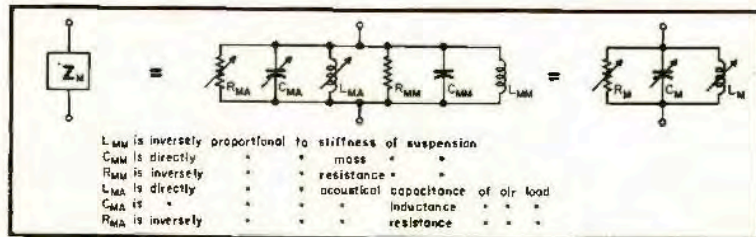

Fig. 2. Equivalent circuit for motional impedance of loudspeaker.
and interrupted wave-trains show that a triode output *without* feedback represents about the point of vanishing return. A lower output impedance than that thus represented is of very little importance in restraining the ringing of a typical diaphragm assembly. Direct-radiator speakers will ring at their resonant frequency even if fed by a generator of zero internal impedance. Just how badly they will ring under that circumstance will depend on the amount of flux in the gap and upon the amount of damping inherent in the diaphragm suspension. The role of mechanical damping, which takes place mostly in the outer roll, is illustrated in Fig. 2. The power that goes into R_{mid} , shown in the middle circuit of that figure, is the power that counts—the power that represents acoustic output. The shunting reactances are necessary evils. Any power lost in
It has to do with variation, with frequency, of the air loading on the speaker cone. In (B) of Fig. 2, the resistance and reactance contributed to the equivalent electrical circuit of the motional impedance by the mass and mounting of the voice-coil and cone have been depicted as fixed. On the other hand, resistance and reactances arising from air
loading have been depicted as variable. In general, the circuit values due to definable mechanical parameters are relatively fixed. Those due to acoustic values may vary with frequency, even the equivalent inductance and capacitance. Over a wide range of frequencies where the speaker (if considered as a perfect piston) gets a big enough "bite" of air, the loading due to air is almost purely resistive and is constant with frequency. For the equivalent circuit within this range C_{m0} and L_{m0} could be left completely out, and R_{m0} could be shown as fixed. However, if the applied frequency is lowered far enough, the "bite" will cease to be big enough at some frequency that depends on the size of the cone and the resistive loading will start to change. Whether it may be said to go "up" or "down" depends upon the acoustical-electrical analogy one uses (e.g. force-current or force-voltage). At any rate, the net effect is that the resistance "seen" by the electric circuit, R_m in Figs. 2 and 4, goes up with decreasing frequency.
Figure 9 shows the variation of R_m with frequency on the assumption that R_m is entirely due to the air loading on the cone. (In different speakers, the contribution of R_{m0} will flatten the actual rise of the curve to various degrees.) The "turnover" frequency, f_t , will vary from about 520 cps for a 15-in. speaker to about 1,660 cps for a 5-in. speaker. It can be seen that loudspeaker response will drop off about 6 db per octave below this frequency if an effective constant voltage is applied across Z_m (since the power output will then be inversely proportional to R_m). But the ordinary amplifier, with considerable output resistance adding its effect to that of the voice-coil, will drive a speaker in such a manner that there will not, in general, be such a low-frequency attenuation. The reason is that the reactive part of the motional impedance, as at (C) of Fig. 2 "looks" above resonance, like a capacitance shunting the load. Together with output resistance and voice-coil resistance it forms a power-eating tone control circuit that flattens out the response be-